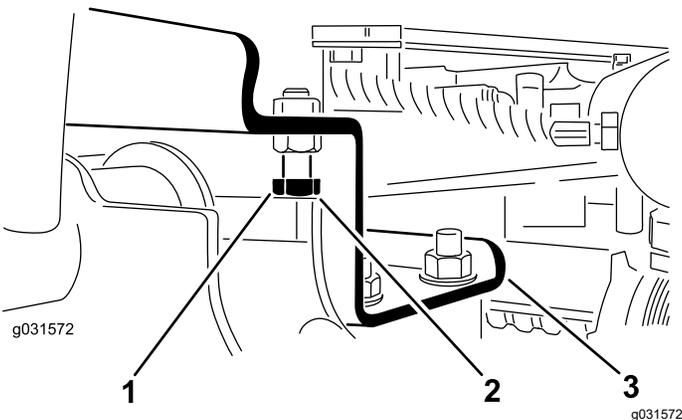

Figure 8
- A. Back off the stop bolts (Figure 8).
2. Ensure that the clearance between each lift arm and stop bolt is 0.13 to 1.02 mm (0.005 to 0.040 inch) as shown in Figure 8.